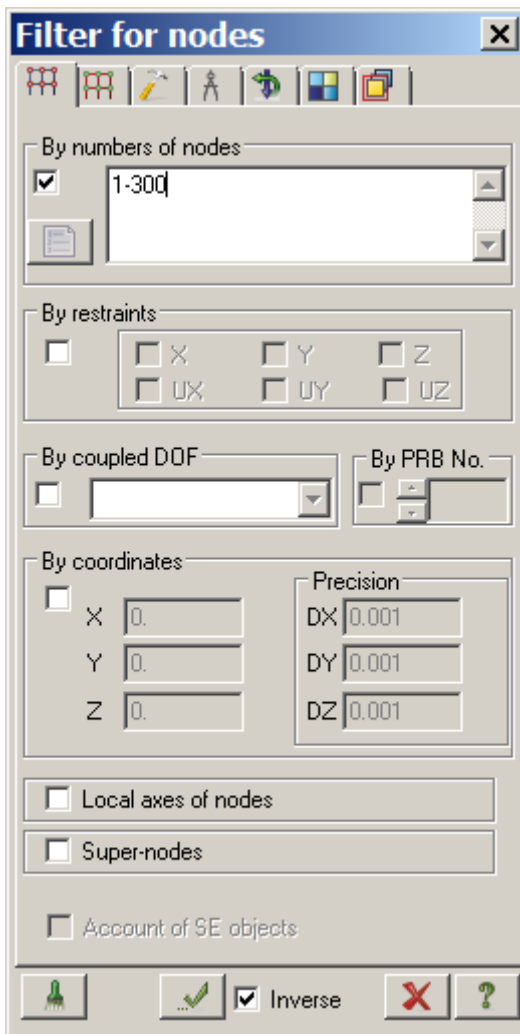

Figure 6.5 **Filter for nodes** tab
- ⇒ In the **PolyFilter** dialog box, select the **Filter for nodes** tab (see Fig.6.5).